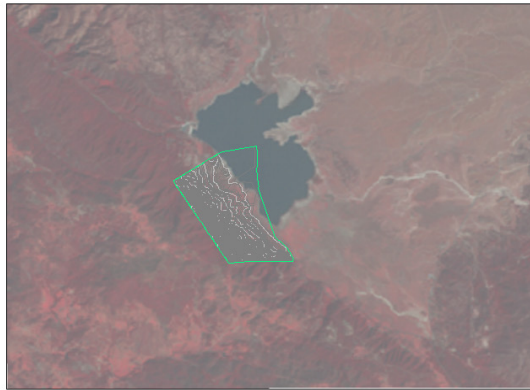

Figure 3-79 Surface displayed over the inserted raster image
7. Choose the **Send to Back** option from this flyout; the surface is now displayed over the image, as shown in Figure 3-79.